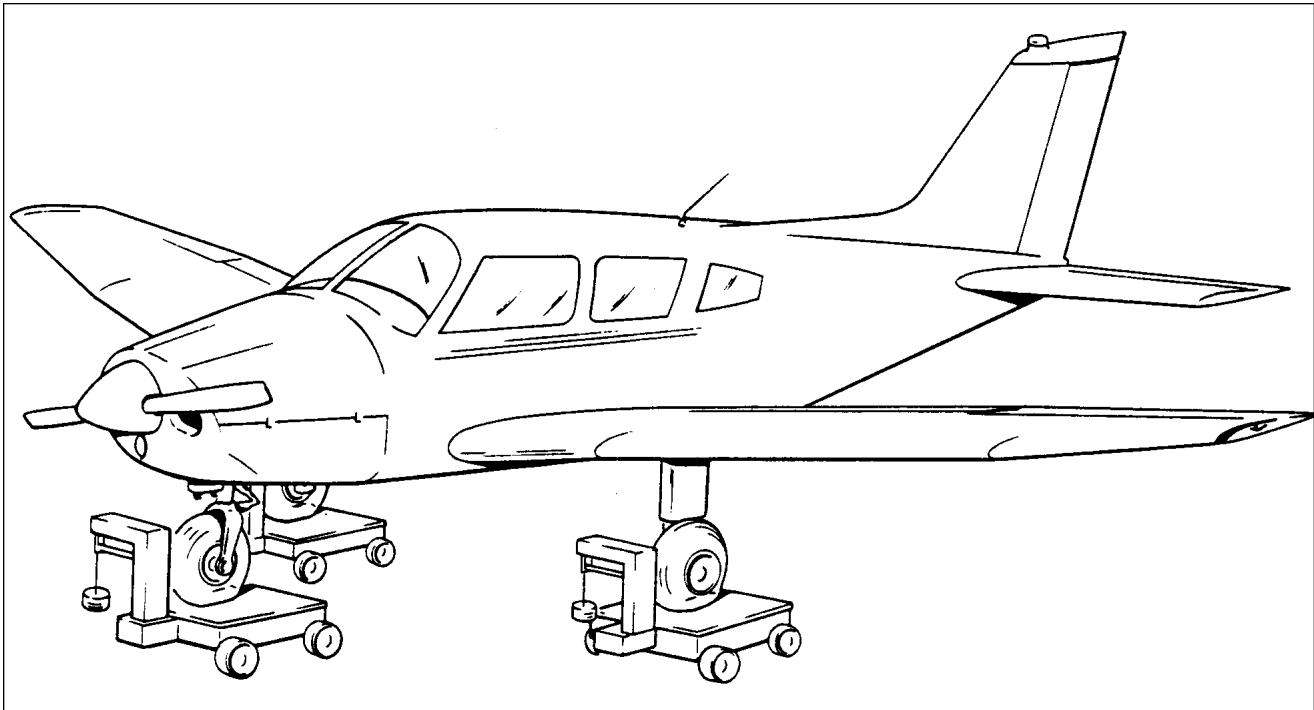

Figure 2-5. Weighing Arrangement
- 2-13. **WEIGHING:** (Refer to Figure 2-5.) The airplane may be weighed by the following procedure: